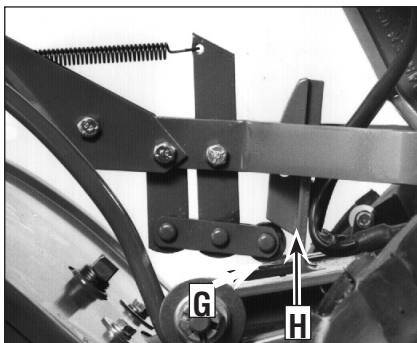

Figure 3-2: FORWARD position; roller (G) rests under the adjustment block (H)
- FORWARD is engaged when the lever is moved down until the clutch roller (G, Figure 3-2) engages into the detent position under the adjustment block (H, Figure 3-2). You will definitely feel the lever engage into this position.
When you shift between FORWARD, NEUTRAL and REVERSE, the clutch roller at the base of the Wheels/Tines/PTO Drive Lever should be positioned as shown in Figures 3-2, 3-3 and 3-4. Verify the position of the clutch roller as you shift the lever. If it is not positioned correctly, contact the Factory or see your local authorized dealer.